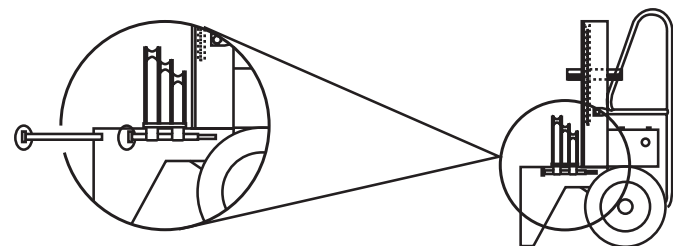

Figure 12. Mounting Support
Mount the support roller or support unit on the right leg of the bender as you face the unit. Secure the support roller or support unit with the quick release hinge pin. See Figure 12.
1. Be sure to match the appropriate shoe with its corresponding support unit. Attach the support using the hinge pin. See Figure 12.